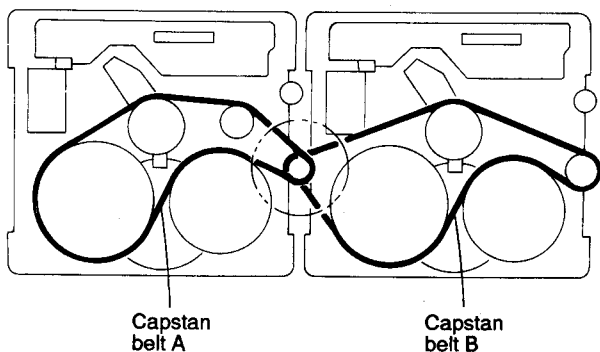

Fig.5-29
**Caution 1:** Be sure to handle the capstan belts so carefully that these belts will not be stained by grease and other foreign matter. Moreover, these belts should be hung while referring to the capstan belt hanging method in Fig. 5-29,5-30.